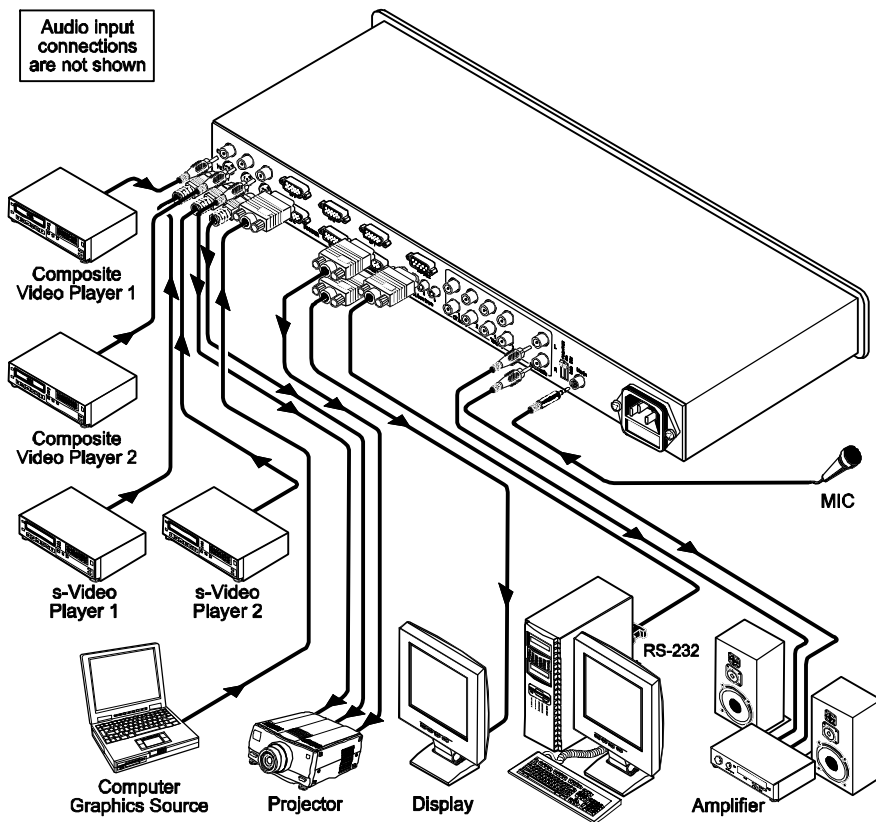

Figure 2: Connecting the VP-23DS Presentation Switcher / Scaler
In Figure 2, the audio input connections are not shown, except for the microphone and the MASTER AUDIO OUT. In this example, all the outputs are connected to the same projector. Use the projector controller to switch between the **VP-23DS** video outputs1.
To connect2 the **VP-23DS**, as illustrated in the example in Figure 2, do the following3:
4. Connect the appropriate unbalanced stereo audio sources (not shown in Figure 2).
8. Connect the power cord (not shown in Figure 2).